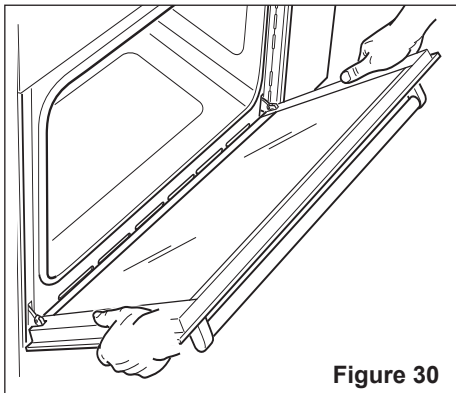

Figure 30
- Hold the door as shown in fig. 30.